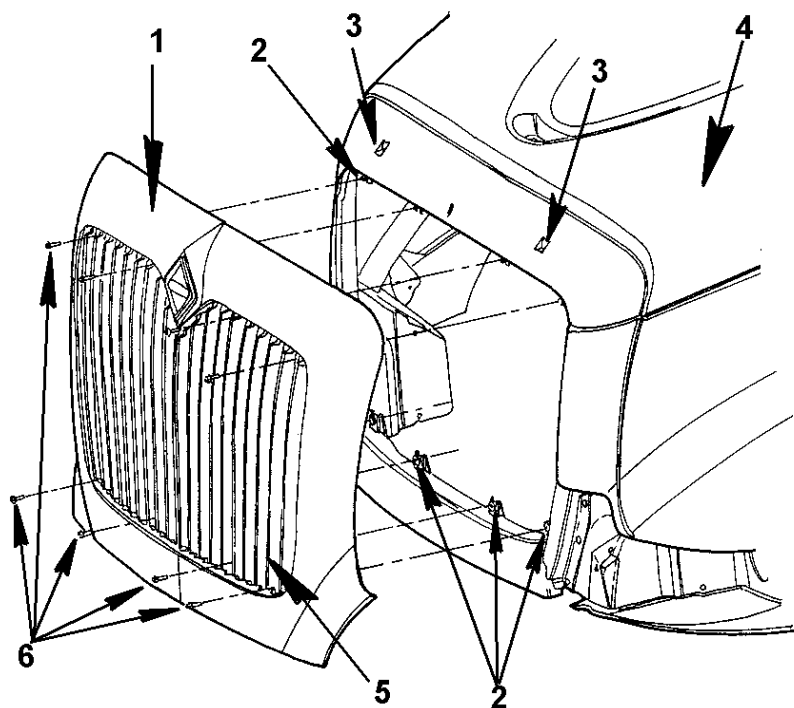

Figure 33 Grille Installation
1. Locate the four lower grille and shroud mounting screws on the grille assembly (Figure 33, Item 3).